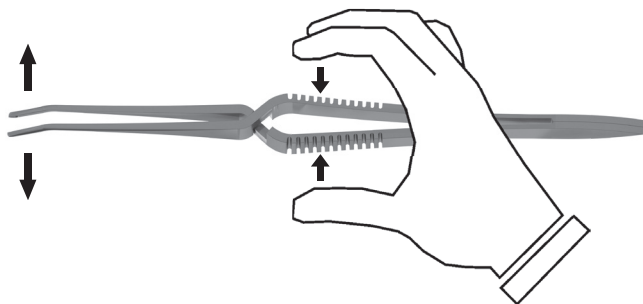

Fig. 2
- Rinse the cross action instrument under running cold (< 40 °C) tap water and move the cross action instrument when doing so (see fig. 2).
- Move the cross action instrument when doing so (see fig. 2).
- Move the cross action instrument (see fig. 2).